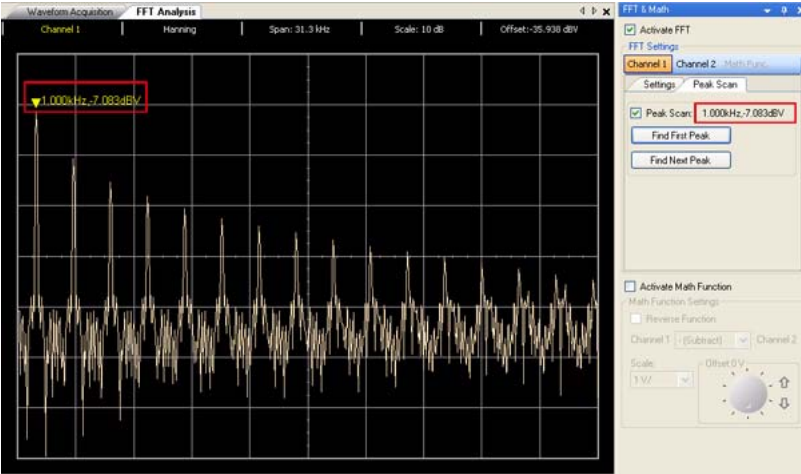

Figure 2-13 First Peak
- 3 Once the Peak Scan is enabled, you will see an indicator on your spectrum pointing at the first peak of your spectrum as shown Figure 2-13.